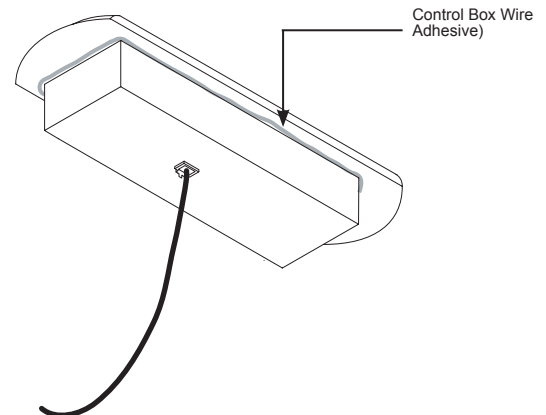

Figure 5 - Adhesive Application
- 2** Sparingly apply adhesive around the base of the control panel (Figure 5).